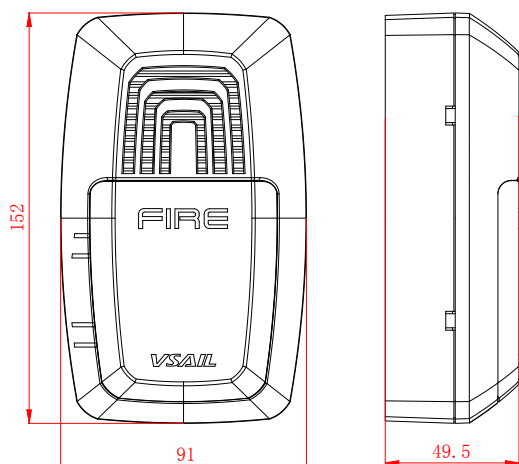

Fig. 1
- ✧ If the sounder strobe is required to be tamper-proof, knock down the arch knockout as shown in Fig. 1 and fix it with ST2.9 × 6.5 self- tapping screws (in this case, it can only be removed by a cross screwdriver).